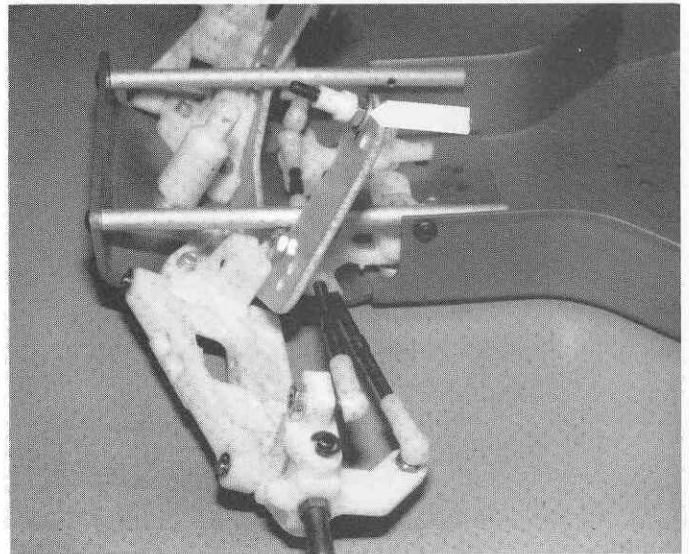

Fig. 129
□ **Fig. 129** Now we'll install the front shocks on the car. The arrow in the photo is pointing to the upper mount. Now slip on an aluminum washer and then screw down and tighten one of the 4/40 plain nuts. The arrow is pointing to the flanged nylon shock bushing. Slip this bushing on next, with the flanged end on first.